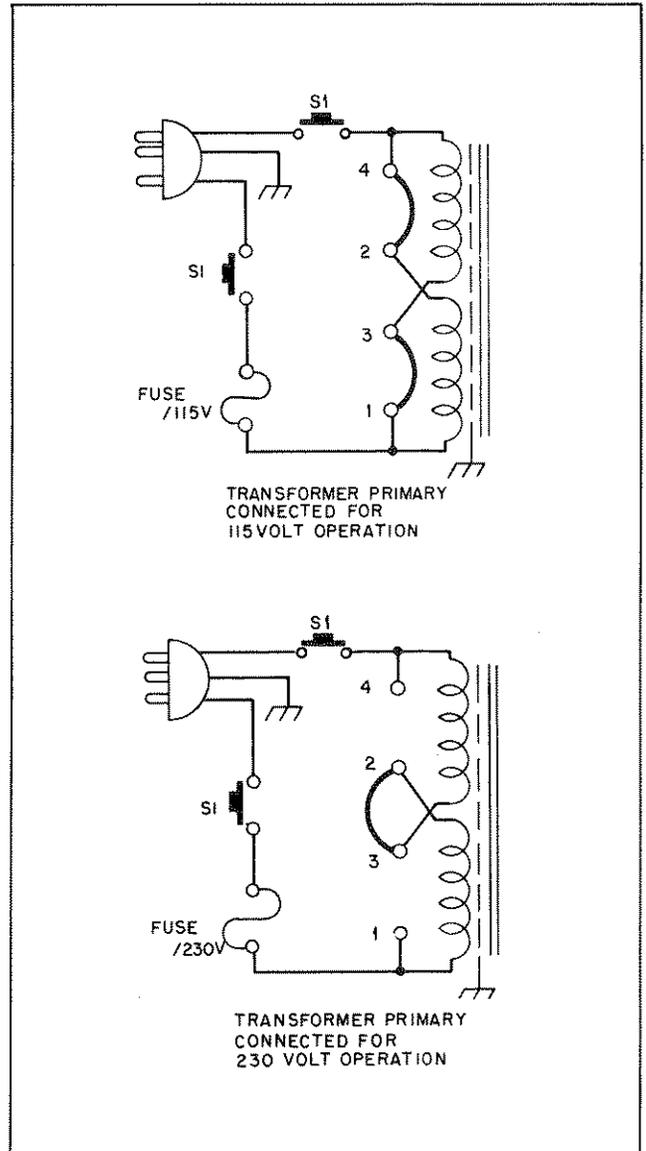

Figure 2-4. Primary Connections
b. Connect windings in parallel, as shown in Figure 2-4.